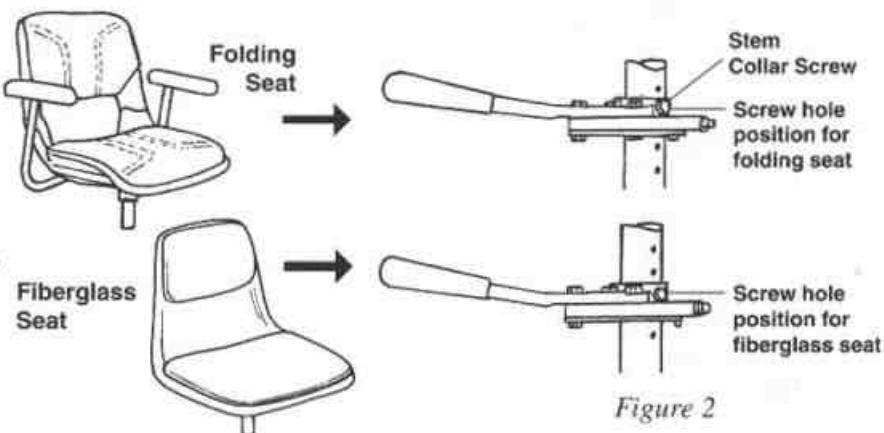

Figure 2
*It is recommended that the seat lock be installed in the second hole positioned from the seat on a folding seat and the third hole on a fiberglass seat (Figure 2).*